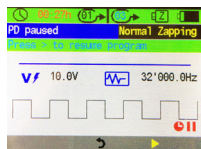
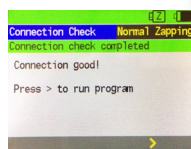

Fig. 20
Fig. 26
The device will then show the running panel where you can follow the progress of the program (Fig. 20). At the center of the panel is a progress bar, the voltage, the frequency and the wave type. At the top of the display starting from the left are indicated the time remaining to finish the program, the step currently running and the total number of steps. (Skipping steps see paragraph 4.1.6.2.)
- **Successful:** if the connection check is successful select  to run the program (Fig. 26). The device will show the running panel where you can follow the progress of the program (Fig. 20). At the center of the panel is a progress bar, the voltage, the frequency and the wave type. At the top of the display starting from the left are indicated the time remaining to finish the program, the step currently running and the total number of steps. (Skipping steps see paragraph 4.1.6.2.)